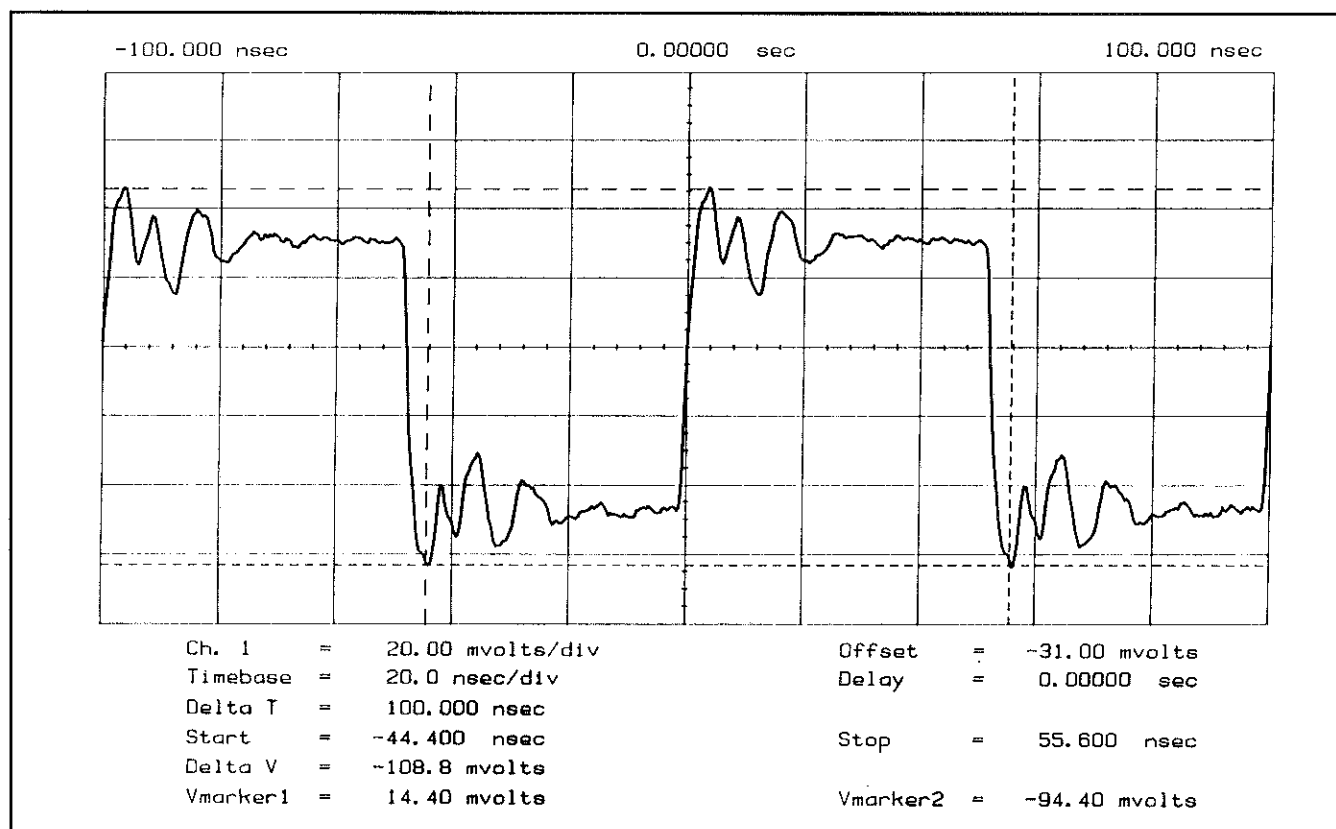

Figure 7C-5. A2J2 (A2J4) 10 MHz Output Waveform
- E. Set the input triggering mode to MANUAL. Vary the triggering voltage -480 mV to $+480$ mV. Verify that A2J2 [A2J4] outputs an EECL 10 MHz square wave throughout the whole range of triggering voltage. (See *Figure 7C-5*.)